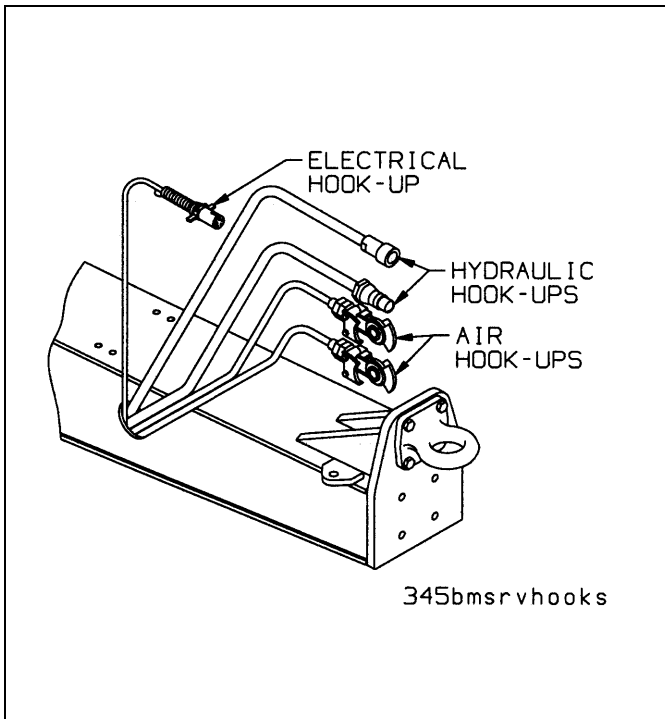

Figure 3-1: Service Hookups
6. Connect the service and emergency air hoses of the towing vehicle to their respective gladhand on the trailer. The towing vehicle's air hose couplings are attached and locked to the appropriate gladhands; **red emergency line** to the gladhand with the "EMERGENCY" tag, and the **blue service line** to the gladhand with the "SERVICE" tag (See **Figure 3-1.**)
1. Connect the electrical receptacle on the front of the trailer to the towing vehicle (See Figure 3-1.) Insure all lights function properly when energized by towing vehicle electrical action.